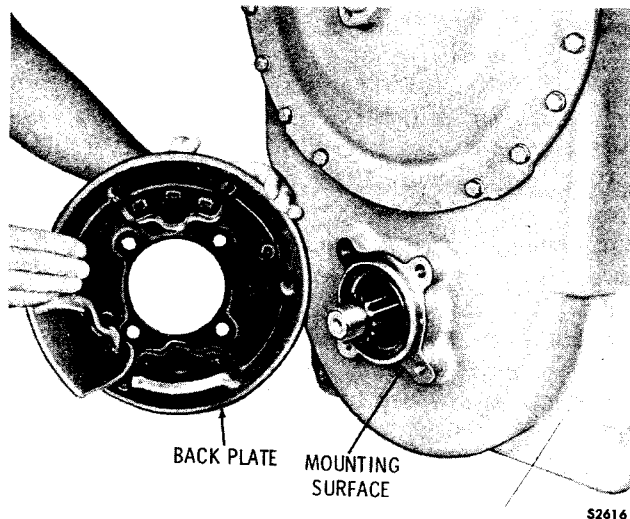

Fig. 7-42. Installing parking brake back plate
(1) Install the brake back plate onto its mounting pad (fig. 7-42). On TTB models, install brake back plate 17 (B, foldout 8). Secure the back plate with four 1/2-13 x 7/8-inch, self-locking bolts. Tighten the bolts to 81 to 97 pound feet (110 to 131 Nm) torque.